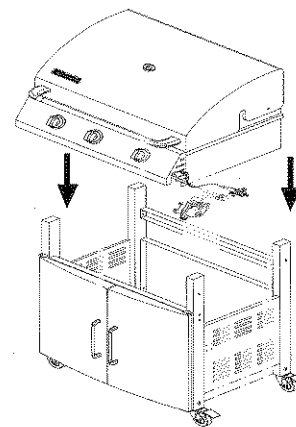

Figure 9
1. This step requires 2 people. With an assistant, lift and position grill head onto grill cart.(Fig.9)